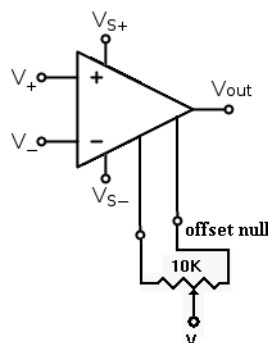

Figure 7.2
- The solution to this problems is to null the amplifier to compensate for this offsets. See figure 7.2.